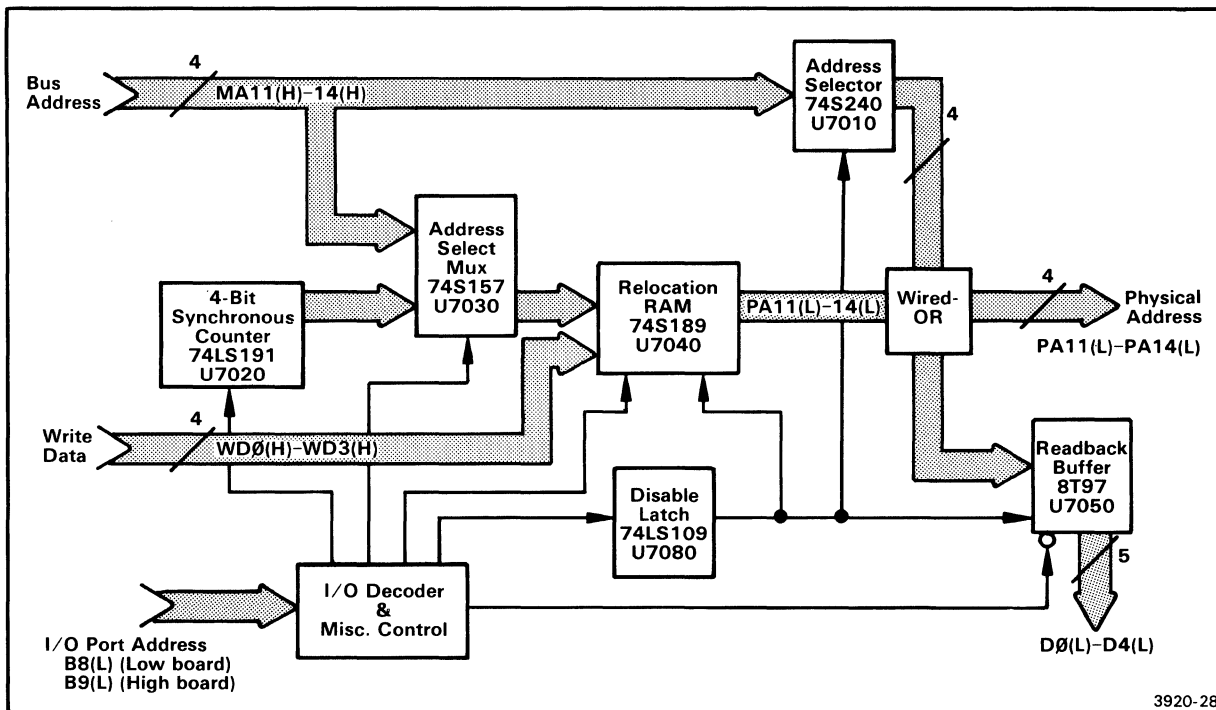

Fig. 9-2. Memory Relocation logic block diagram.
Figure 9-2 is a block diagram of the Memory Relocation logic. The Memory Relocation logic uses the four most significant address bits A12(L)--A15(L) to accomplish the memory relocation. Address bus lines A12(L)--A15(L) are complemented by the address buffers, and the line designations are changed to MA11(H)--MA14(H). (Refer earlier in this section to the discussion of "Address Buffers", and to Table 9-1.) These four address lines MA11(H)--MA14(H) are fed to the inputs of Address Selector U7010 and Address Select Mux U7030.